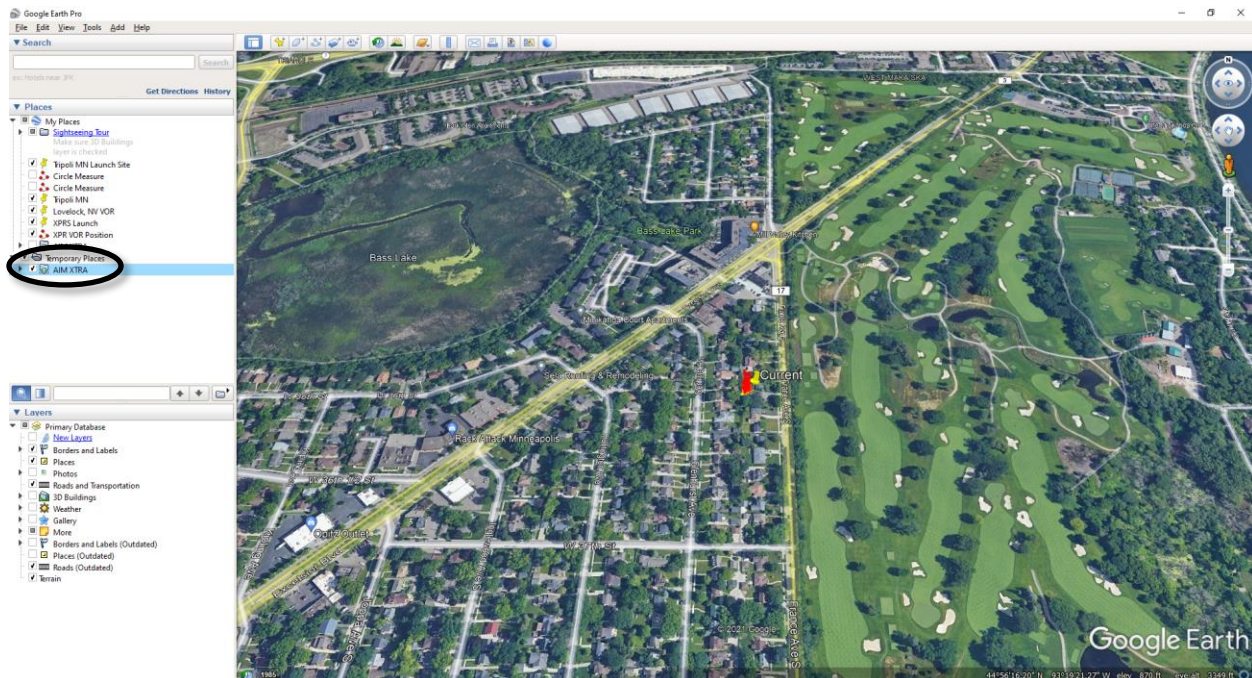

Figure 23 – AIM BASE Launch Google Earth
- **Launch Google Earth** opens Google Earth Pro to view the flight path of the rocket. Note that the Google Earth Pro application will start and in the left Places menu of the screen you will see AIM XTRA under Temporary Places (circled). Double left click it to go to your launch location and view the rocket flight (Figure 23).